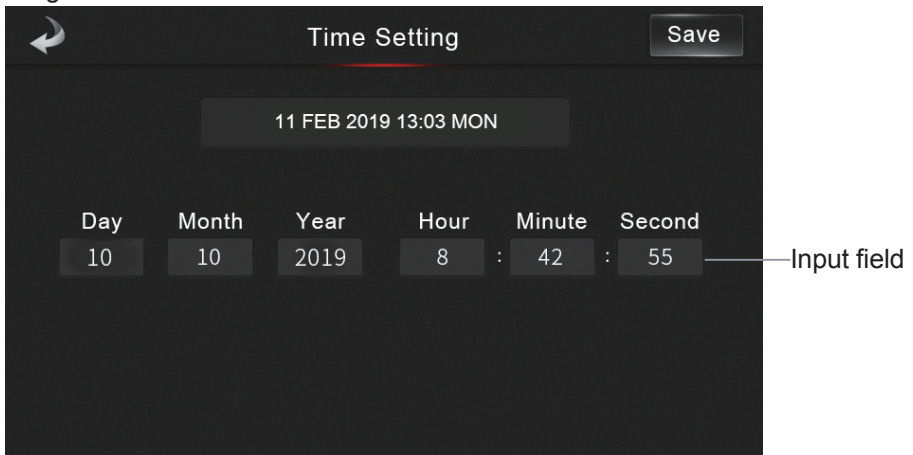

Fig.8 Time Setting interface
In the Setting interface (Fig.7), press Time button ⑰ to jump to Time Setting interface (Fig.8), click on the input field and enter time digital, press **Save** to save the settings.